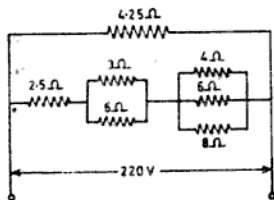

Fig. NE 3.23
- 3.23 Find the total resistance of the circuit shown in Fig. NE 3.23. (Ans.  $5.2 \Omega$ )